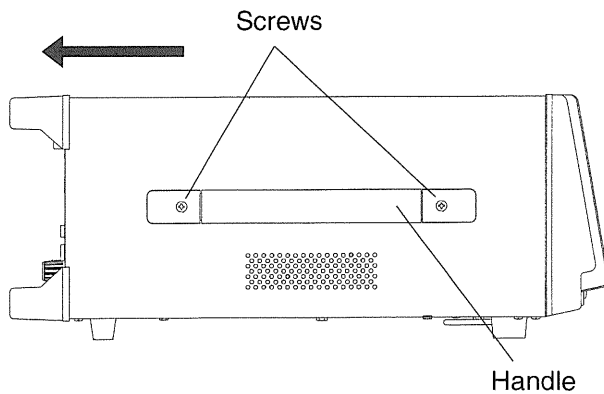
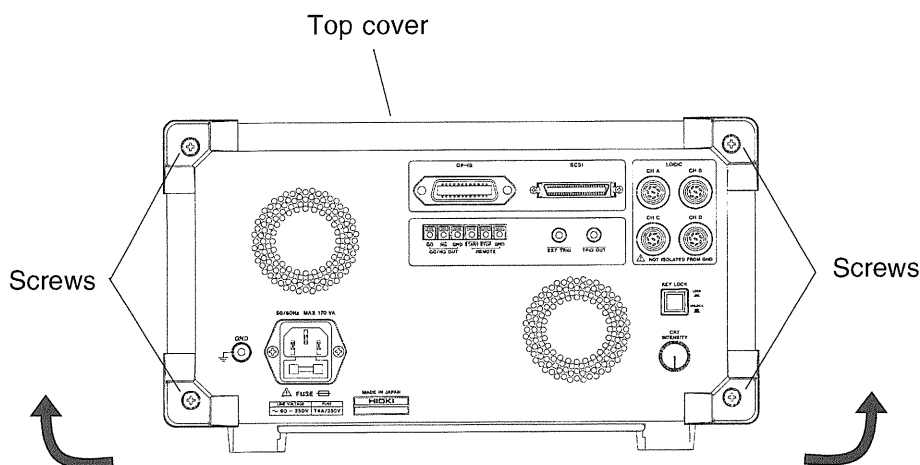

Figure 1 Left side
Figure 3 Rear panel
2. Remove the screws holding the handle, the bottom panel, and the rear panel with a Phillips screwdriver. (Remove the two screws on the handle, and the four screws on the bottom and rear panels respectively.) (Figure 1, 2, and 3)
3. Move the top cover a little in the direction as shown in the figure 1 and remove the top cover, spreading the metal sheets on the sides in the directions as shown in the figure 3. (The top cover is removed easily by opening the stock cover for the printer.)